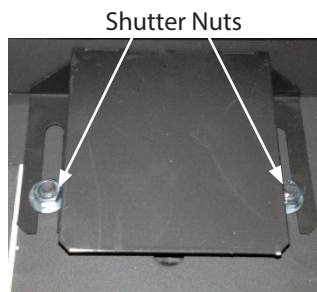

Figure 10.
Step 16: Using a 10mm wrench, loosen the two shutter nuts and slide the shutter completely open. See Figure 10.